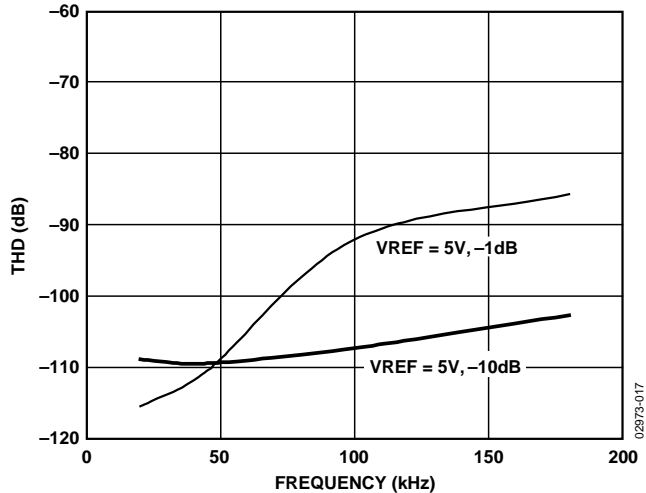

Figure 18. THD vs. Frequency
- For ac applications, the driver should have a THD performance commensurate with the AD7688. Figure 18 shows the THD vs. frequency that the driver should exceed.